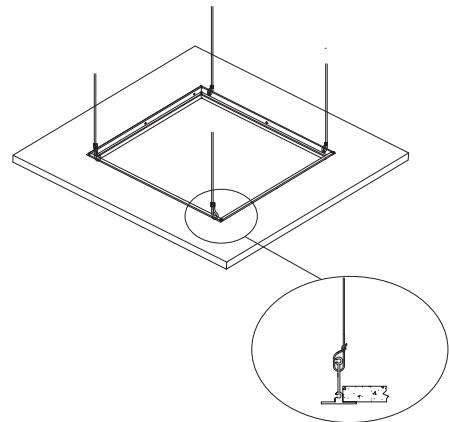

Figure 5
- Use a #8×1/4" sheet metal screw to fasten fixture to T-grid and use a hanger wire to tie off appropriately in accordance with local building codes (screws and hanger wires supplied by others).(Figure 5)
- Suspend frame from four points using the holes provided on the supports.(Figure 5)